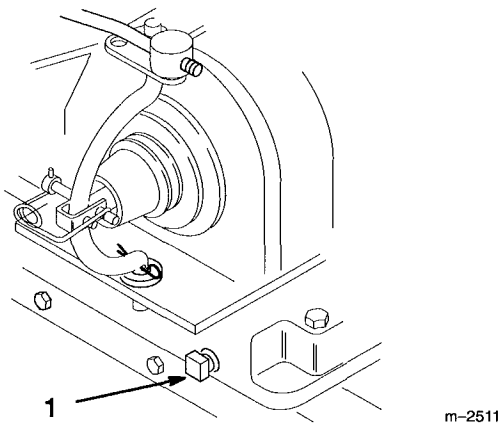

Figure 18
4. Place a pan below the oil drain. Open the drain by removing the plug (Fig. 18).